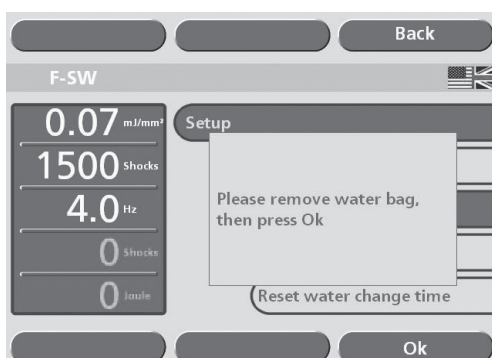

Fig. 4-11 Filling the water circuit II
- As soon as the water circuit has been filled, the instrument prompts you to remove the water bag. (Fig. 4-11) There may be water left in the bag.